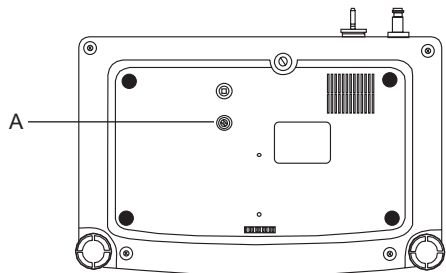

Fig. 8
- 1 With the device switched on and in a perfectly horizontal working position, press the relief valve of the air filter (Fig.8 - Ref.A) at the bottom of the device until there is only air coming out.